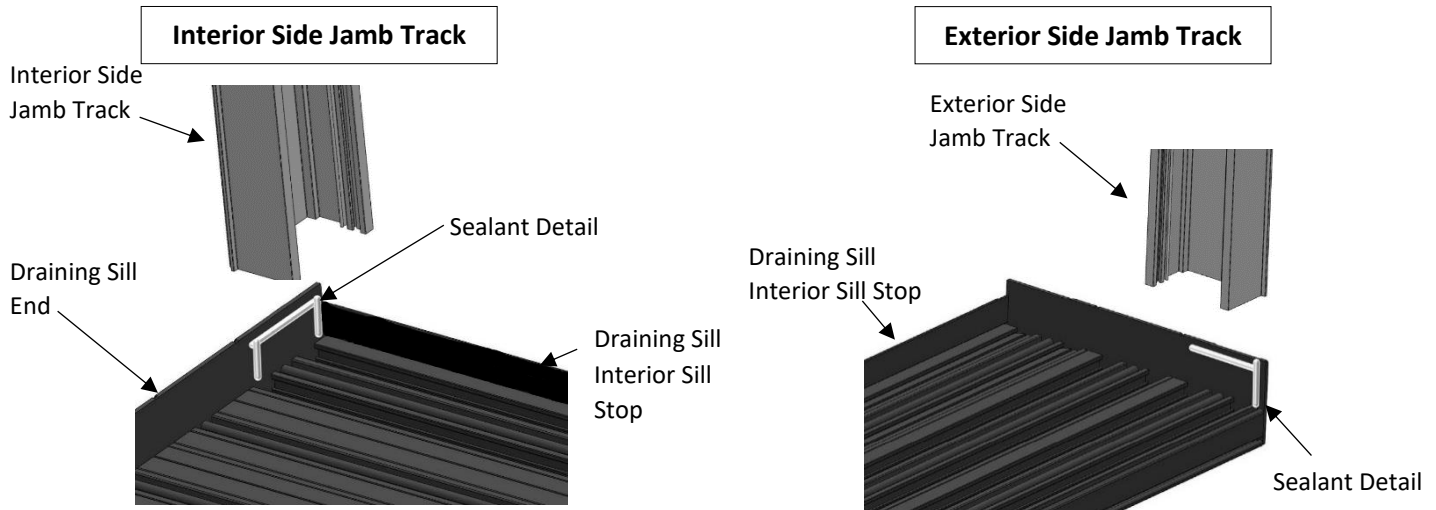

Figure 10
- 4.2 Prior to installing the interior side jamb tracks, apply a 3/8" bead of polyurethane sealant on the sill at the locations indicated for each of the exterior and interior side jamb tracks (see Figure 10).